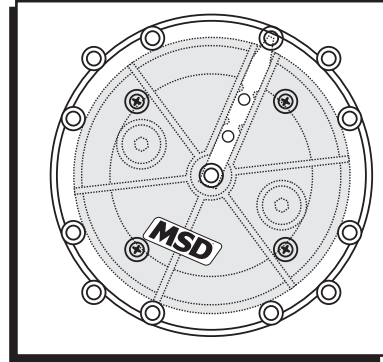

Figure 4 Rotor Tip Alignment.
- Put the Cap in place and ensure correct alignment of the rotor tip and the spark plug terminal (Figure 4). If they do not line up correctly, remove the rotor and adjust the position of the Cap Spacer with its slotted mounting holes.